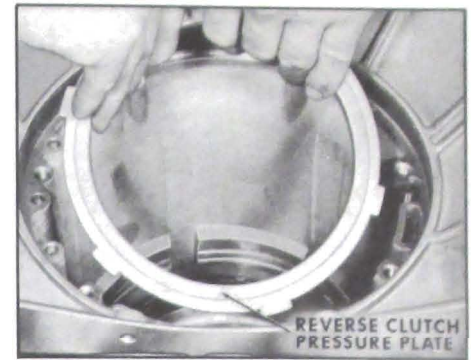

Figure 5-303
9. Install reverse clutch pressure plate with the identification mark being installed in the 5 o'clock groove in case. See Figure 5-303.